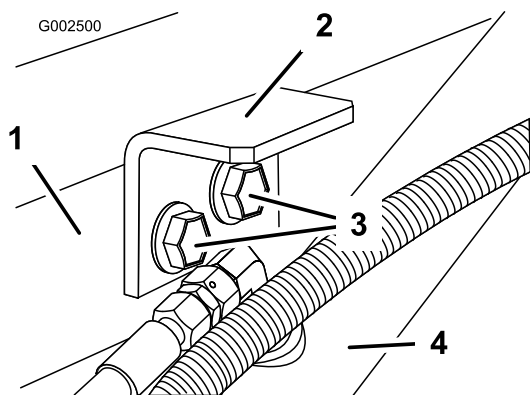

Figure 15
2. Install the attachment hold-down brackets using the two bolts and flange nuts removed previously (Figure 15).